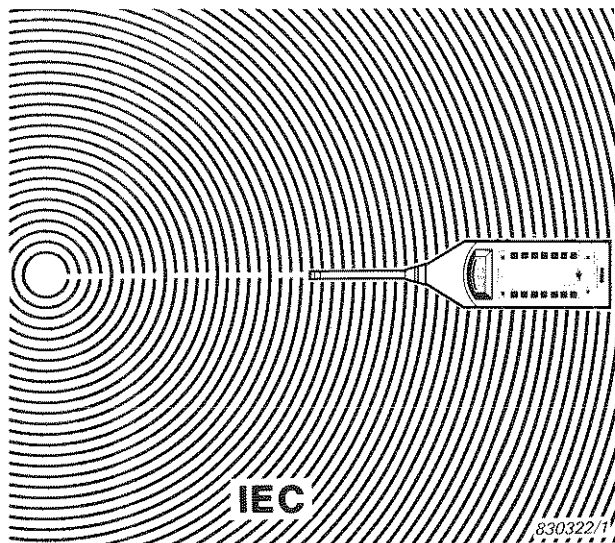

Fig. 8.2. Free-field measurements according to IEC recommendations
- For free-field conditions, point the sound level meter straight at the source, as shown in Fig. 8.2).